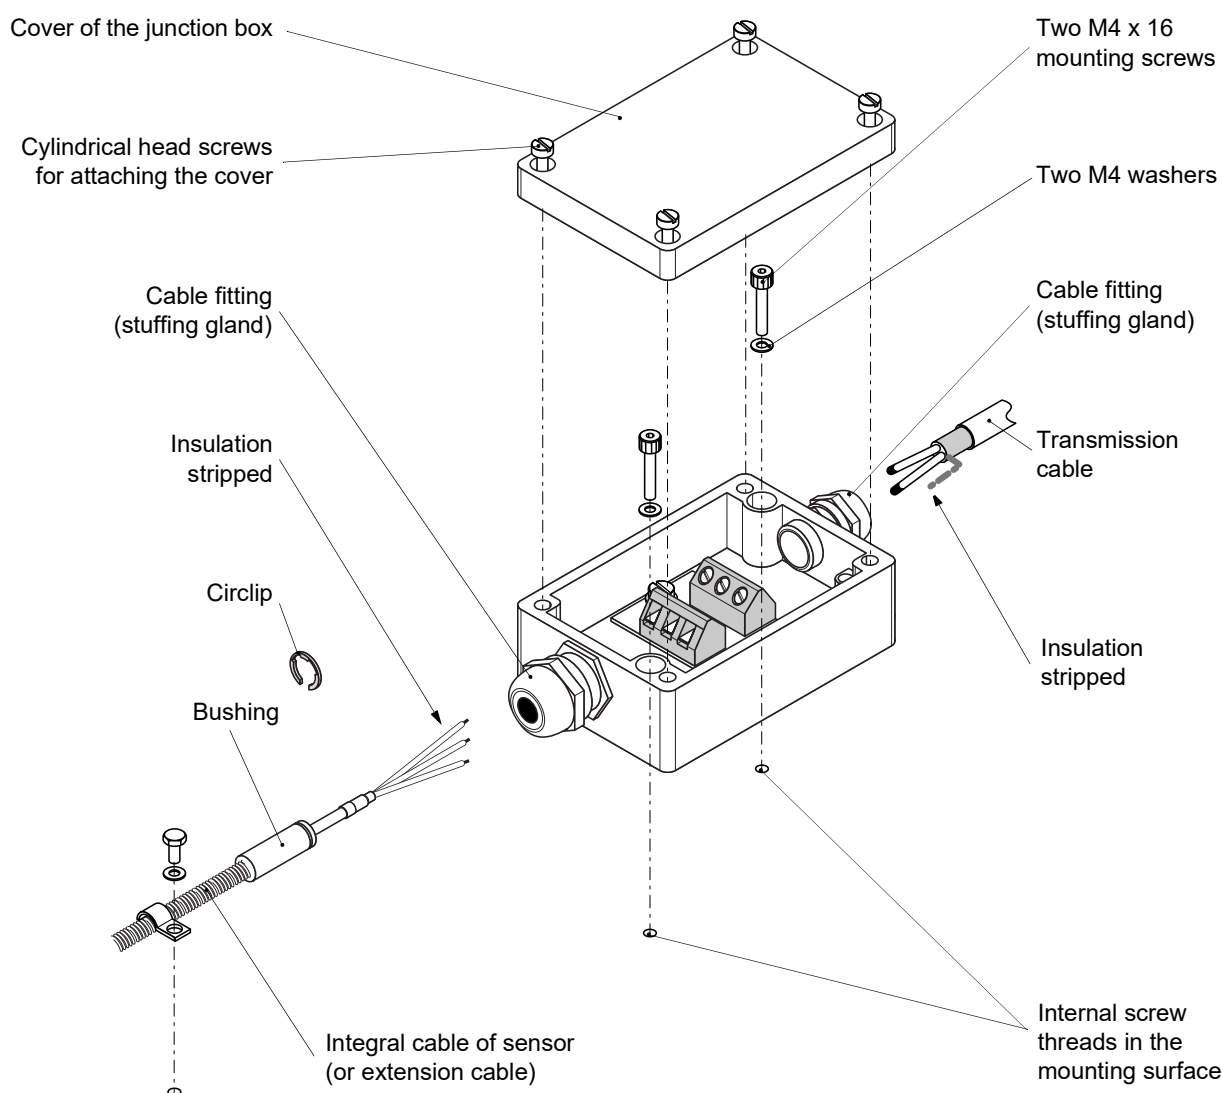

Figure 4-2: Mounting a JB116 junction box
- 3- Remove the cover of the junction box (see Figure 4-2).
- 3- Make the electrical connections within the junction box (see Figure 4-2).
- 5- If the cable has a flexible stainless steel protection tube, place the Ø8 circlip into the groove in the cable bushing (see Figure 4-2). This prevents the cable from slipping out of the cable fitting (stuffing gland).